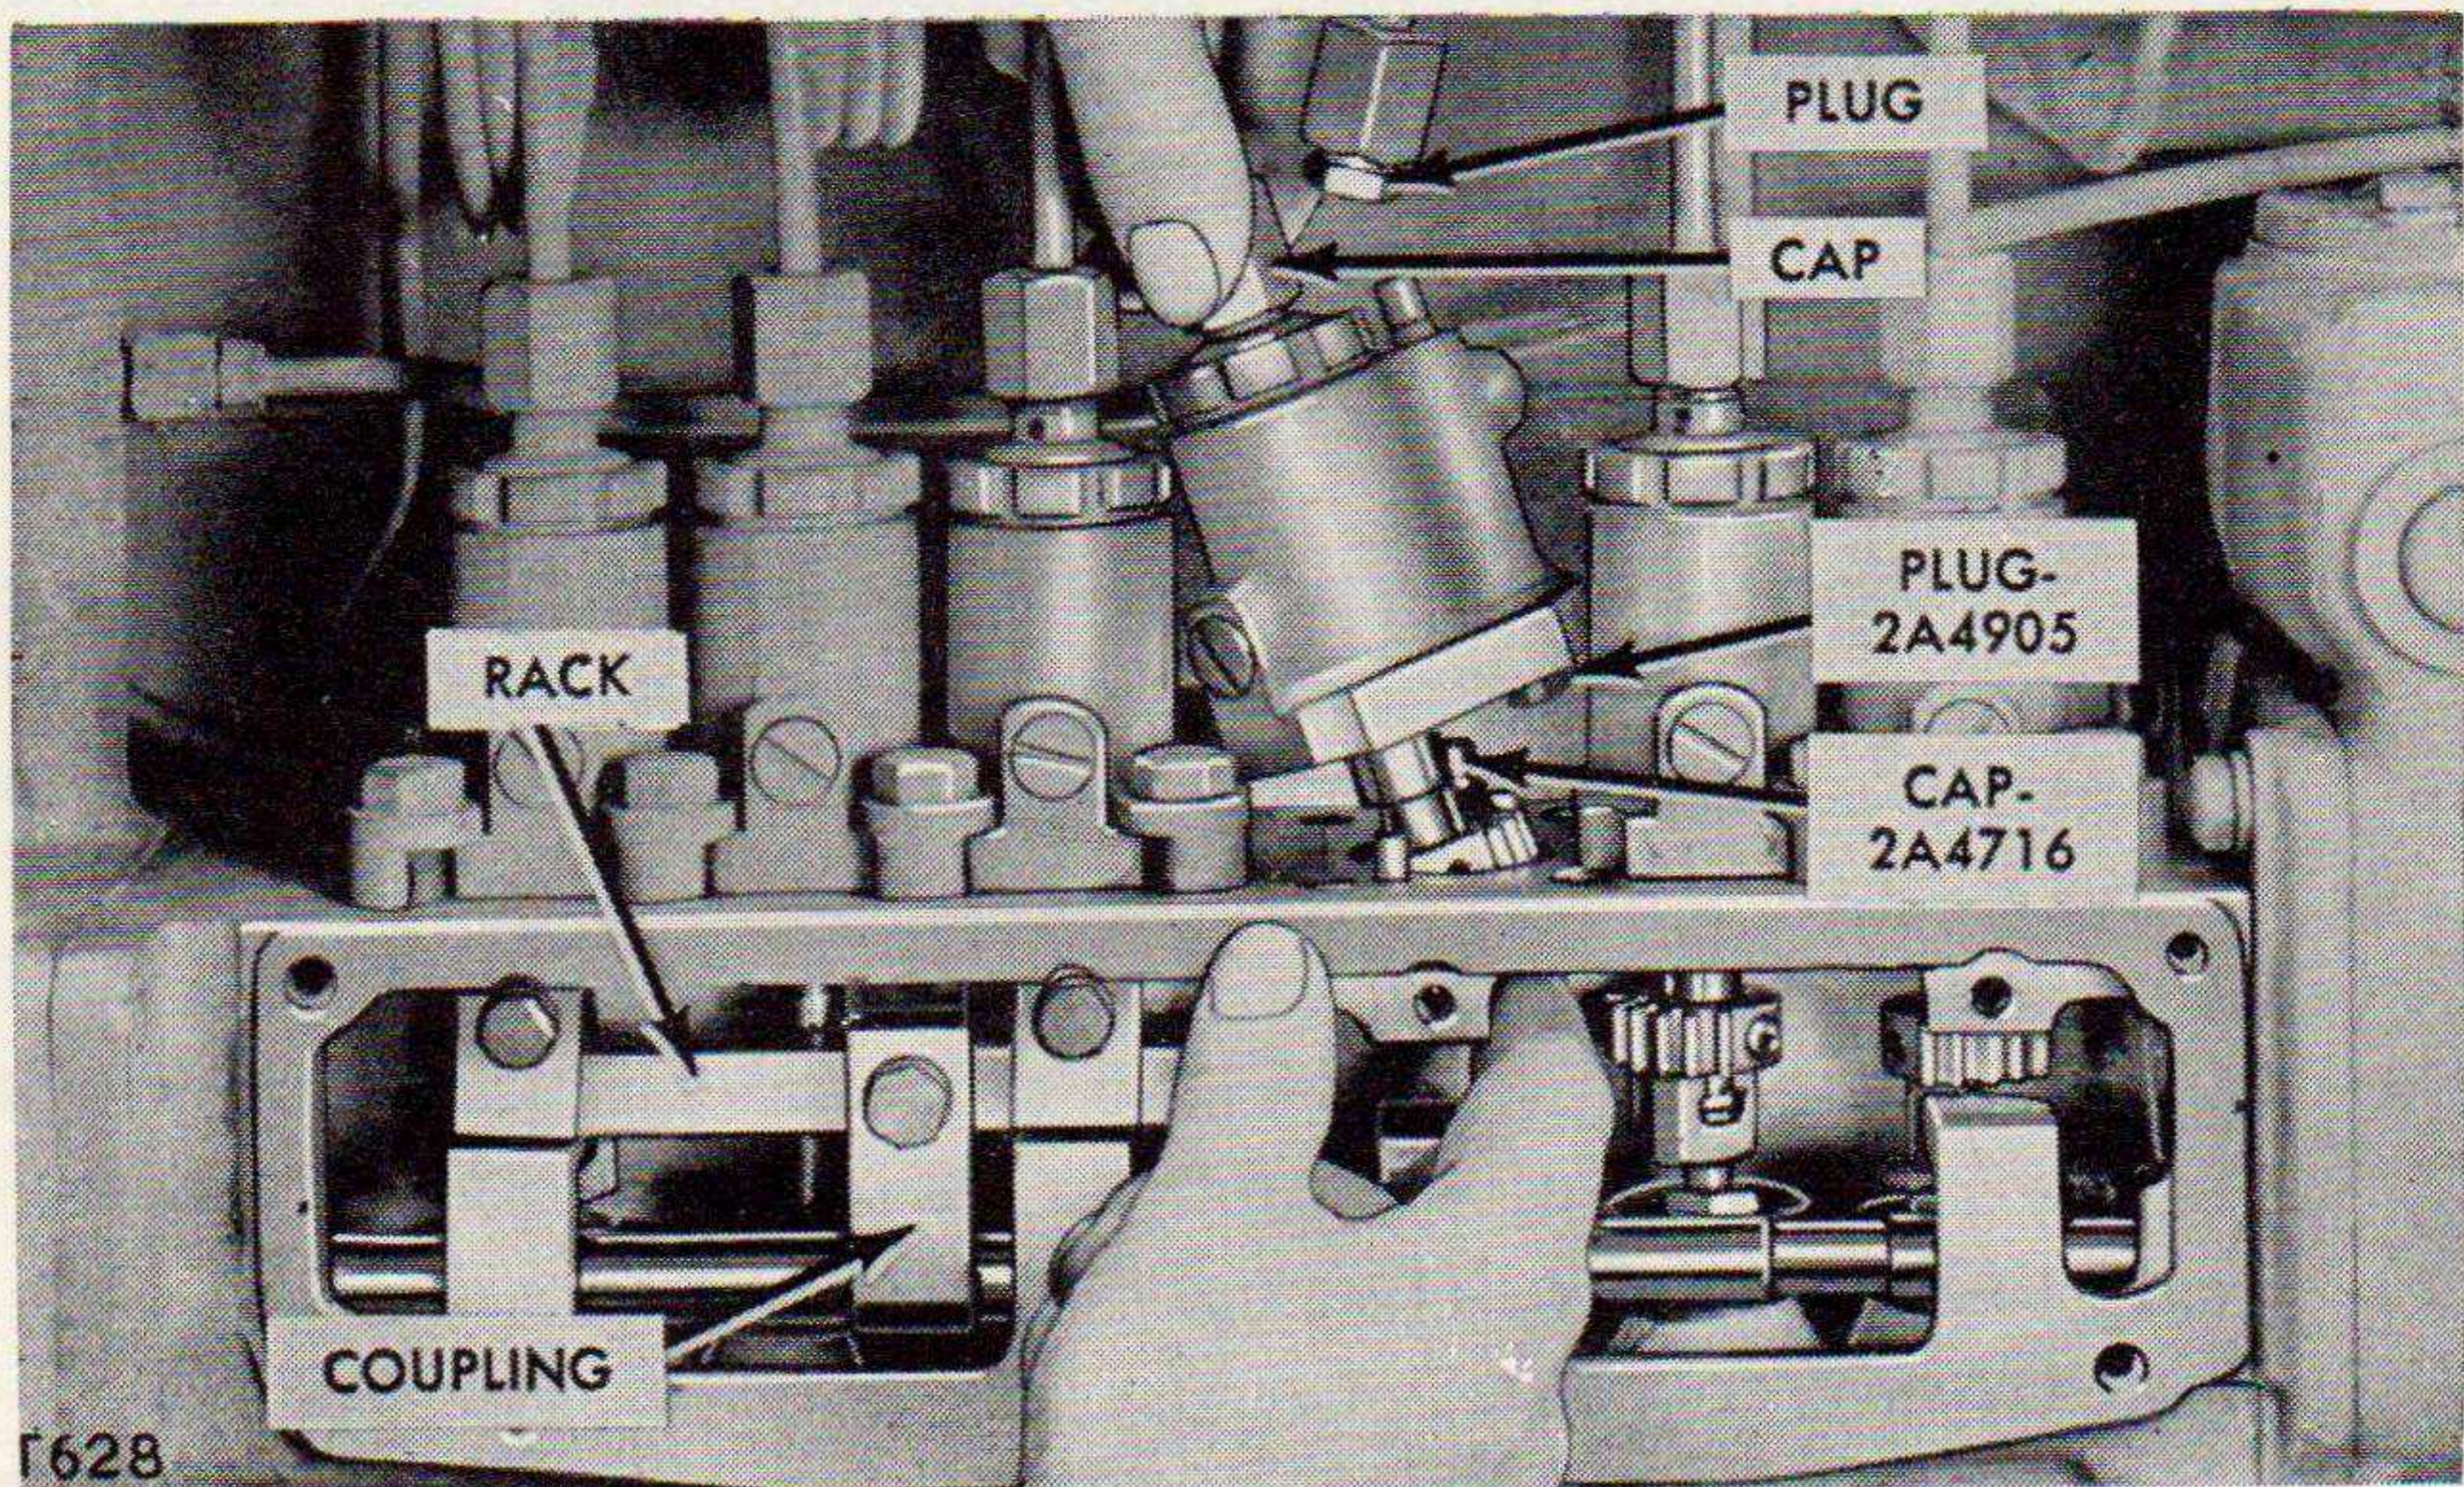

Figure 88.—Removing fuel injection pumps (part No. 2A3895).
*e.* INJECTION PUMP REMOVAL PROCEDURE. (See fig. 88.)
- (1) *Clean the housing.* Clean the top of the housing and around the inspection plate on the side.
- (2) *Disconnect fuel injection lines.* Disconnect the lines at the tops of the pumps and immediately cap the openings in the pumps with 1A8634 caps and the openings in the lines with 2A913 plugs.
- (3) *Remove inspection plate.* Remove the inspection plate by taking out the six capscrews holding it. Note that one capscrew is longer than the others. Be sure it is replaced in the proper location.
- (4) *Remove coupling and rack.* There are two racks, each of which meshes with three pump gears. Remove the capscrews and take out the rack retaining plates and the coupling between the rack and slide bar. Then carefully lift out the rack. Handle the rack with care since any nicks on its surfaces will result in rough governor action.
- (5) *Remove the pump hold-down capscrews.* Remove the capscrews and clamps that hold the pumps in position using the L2303 wrench.
- (6) *Remove pumps.* Lift out the pumps, individually, in the following manner. (See fig. 88.)
- (7) *Cap the fuel outlet and inlet holes.* Cap the outlets on top of the pump housing with 2A4716 caps and place 2A4905 plugs in the inlet holes of the pumps. These precautions are necessary to keep out dirt. (See fig. 88.)